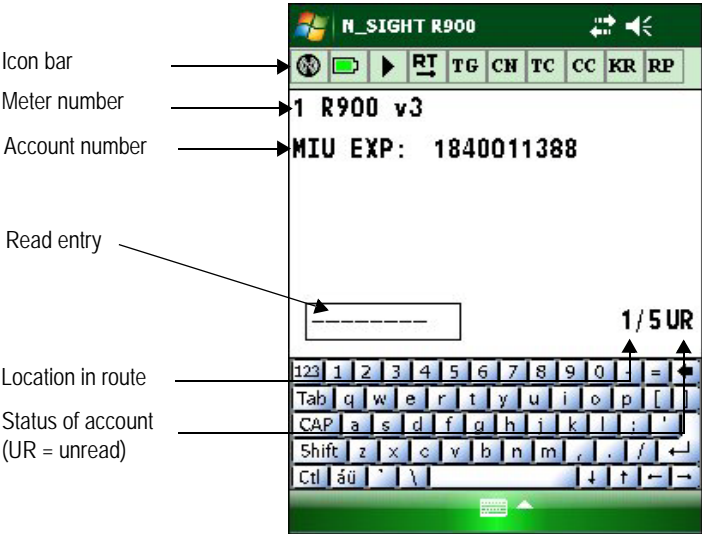

Figure 6.1 N\_SIGHT R900 Reading-Entry Screen
- 1 If you have not already done so, first log into N\_SIGHT R900 on the handheld so that a reading entry screen appears in the display. See Figure 6.1 on Page 6-2.